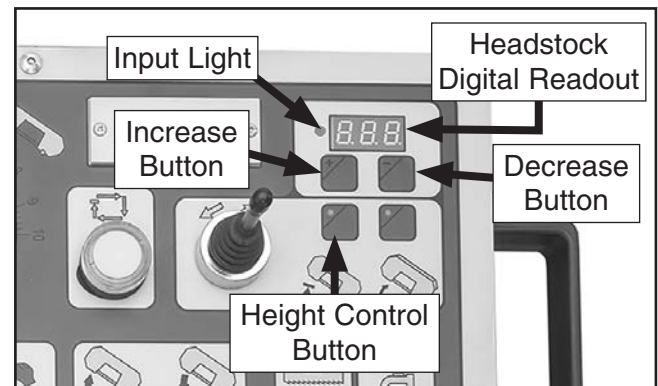

Figure 45. Headstock height controls.
The height that the headstock will travel is controlled by the control panel (see **Figure 45**). Headstock height should be set to match the height of the workpiece. This speeds up repetitive cuts by eliminating unnecessary headstock travel.
2. Turn on hydraulic pump (I).
3. Press height control button (🔧) to edit headstock height setting (see **Figure 45**).
4. Use headstock increase/decrease buttons to adjust height until headstock digital readout displays desired height (see **Figure 45**). Each press will change height by 25mm.